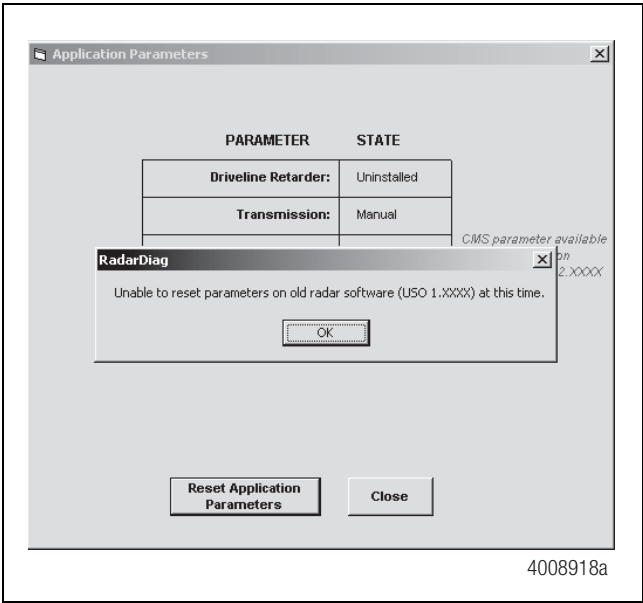

Figure 2.21
4. If the radar software version is USO 1.XXXX, these parameters cannot be reset. A message will then be displayed on the screen explaining this. Figure 2.21.